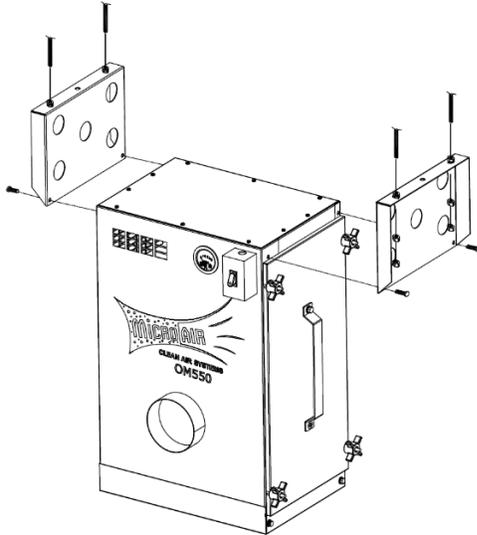

FIG.3
2. Use the bolts removed in Step 1 to secure the ceiling mount brackets to the unit as shown in FIG.3.